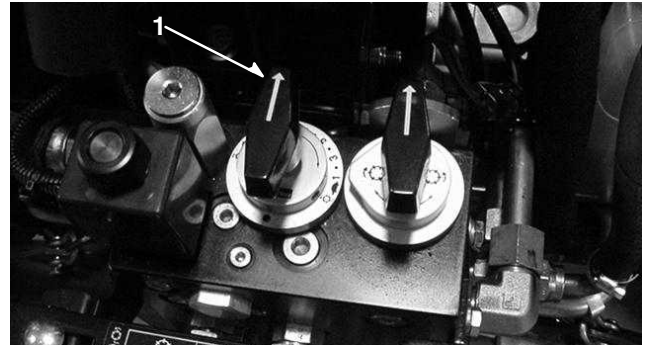

Figure 34
- Turn the reel speed control knob (Fig. 34) to the number setting determined in step 1.